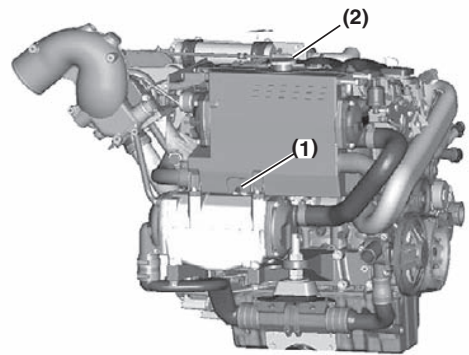

Figure 12
7. Install heat exchanger. Ensure the drain cock (**Figure 12, (1)**) on the heat exchanger is closed.
8. Remove the pressure cap (**Figure 12, (2)**) from the heat exchanger.